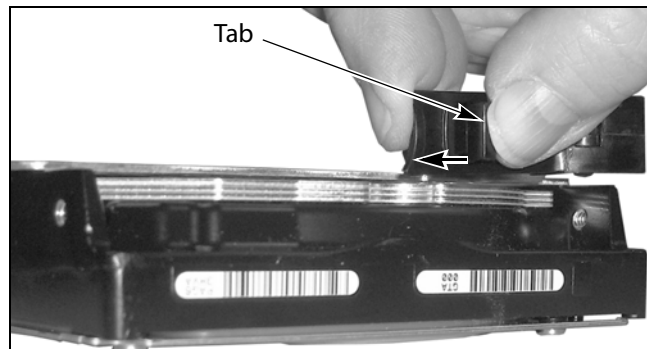
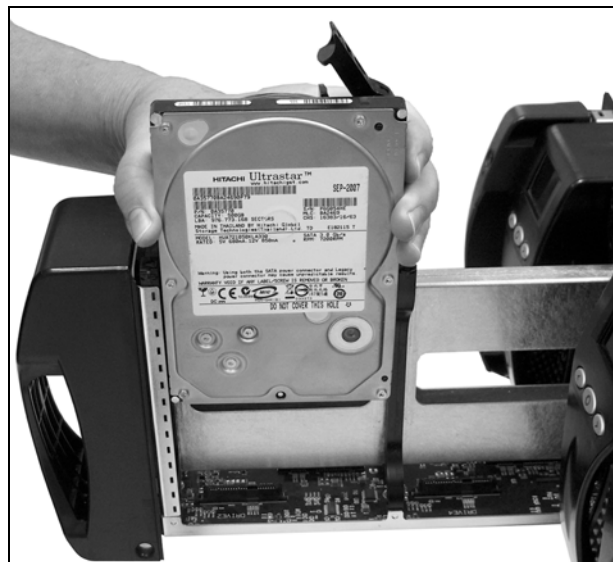

Figure 5 Release the drive sled latch.
Figure 6 Align the drive sled with the drive slot.
7. Release the latch on the drive sled by pushing the locking tab to the left, then pulling the latch slightly toward the top of the drive to open it (see Figure 5 and Figure 6).